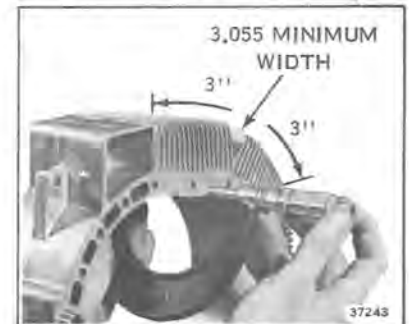

Figure 9-34
19. Check rotor housing width. Width must be 3.055" minimum at spark plug hole, and 3" to each side of spark plug hole. If less than 3.055", rotor housing must be replaced. See Figure 9-34.